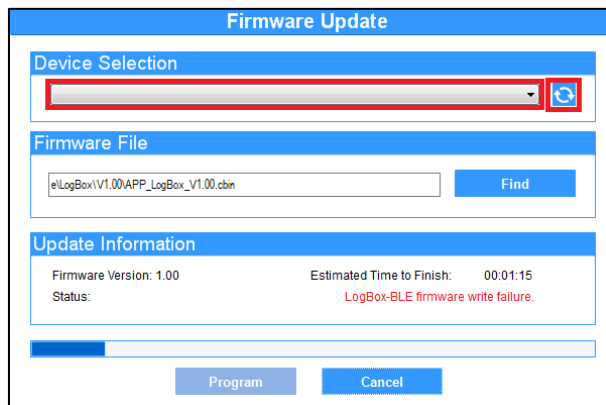

Fig. 57 – Firmware failure
- d. If **NXperience** has been closed and/or it is no longer possible to find the device on the update screen, as shown in **Fig. 57**, it is necessary to close the **NXperience**, turn off the **LogBox-BLE** and reconnect the device to the USB interface for a new attempt.